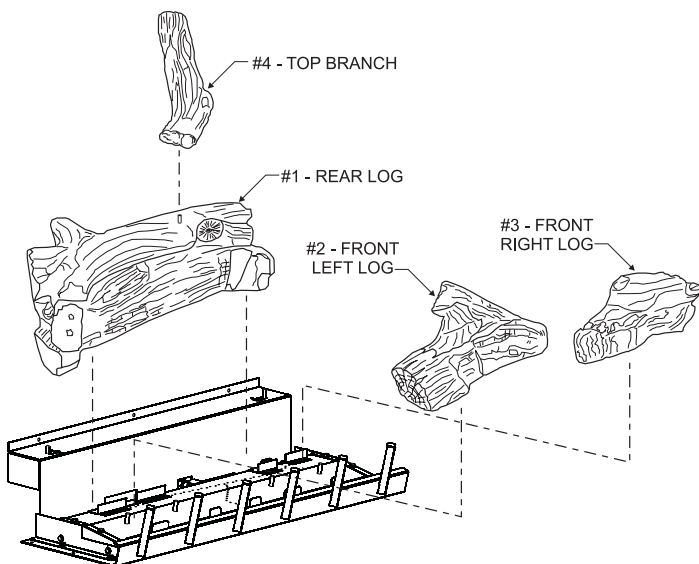
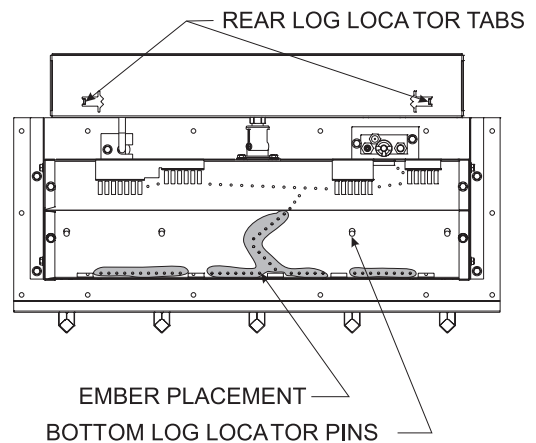
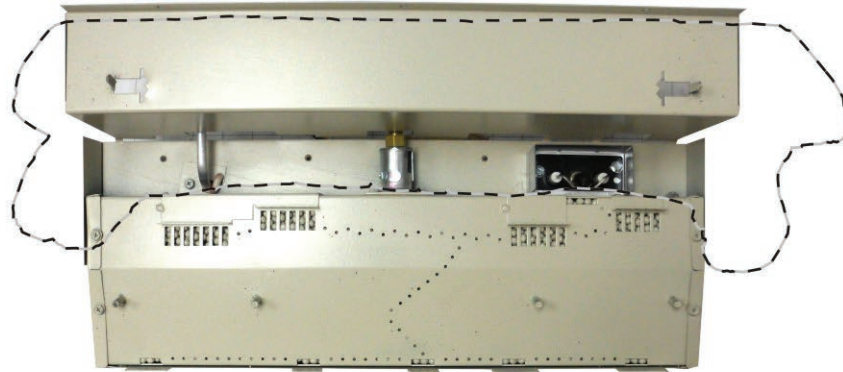

Figure 69
Figure 70
Figure 71
The positioning of logs is critical to safe and clean operation of this fireplace. Sooting and other problems may result if the logs are not properly and firmly positioned in the fireplace. Please refer to **Figure 69**, **Figure 70**, and **Figure 71** and corresponding **WARNING**, when completing the following log placement steps.
2. After all logs are properly positioned, place small “dime” size pieces of Rockwool lightly across the front round “blueflame” ports. Place the ember material (Rockwool pieces) side by side. Do not stack more than one layer of embers across the burner ports. **See Figure 69.**